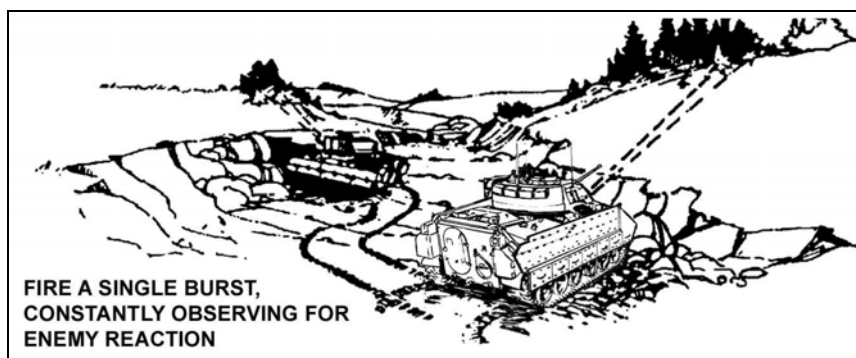

Figure 6-39. Reconnaissance by fire.
a. **Reconnaissance by Fire.** The gunner reconnoiters by fire to cause hidden enemy forces to react. He fires a single burst, constantly watching for possible enemy movement or return fire (Figure 6-39).